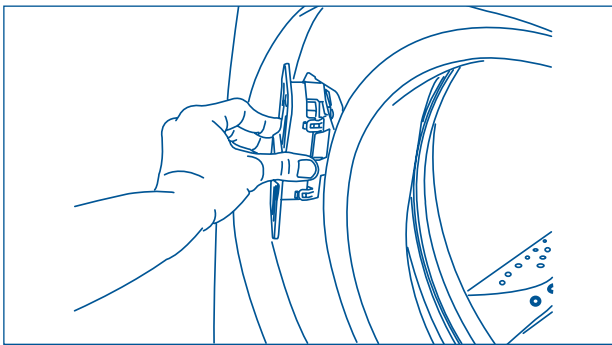

Figure 2-19.
3. Insert the harness connection through the front panel first, and then pivot the lock until it is flush. Slide the lock toward the center of the front panel until the screw holes line up. (See Figure 2-19)